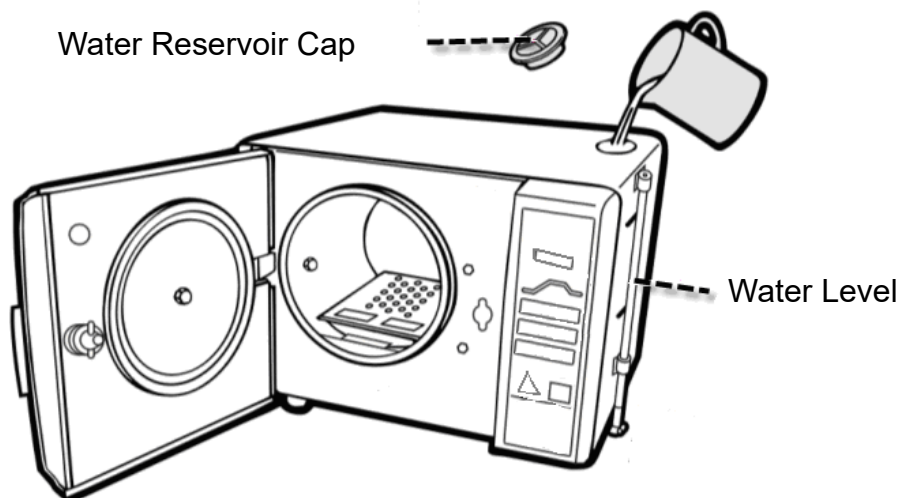

Figure 26
A. Open the water reservoir cap; pour distilled water into the water reservoir as Figure 26.